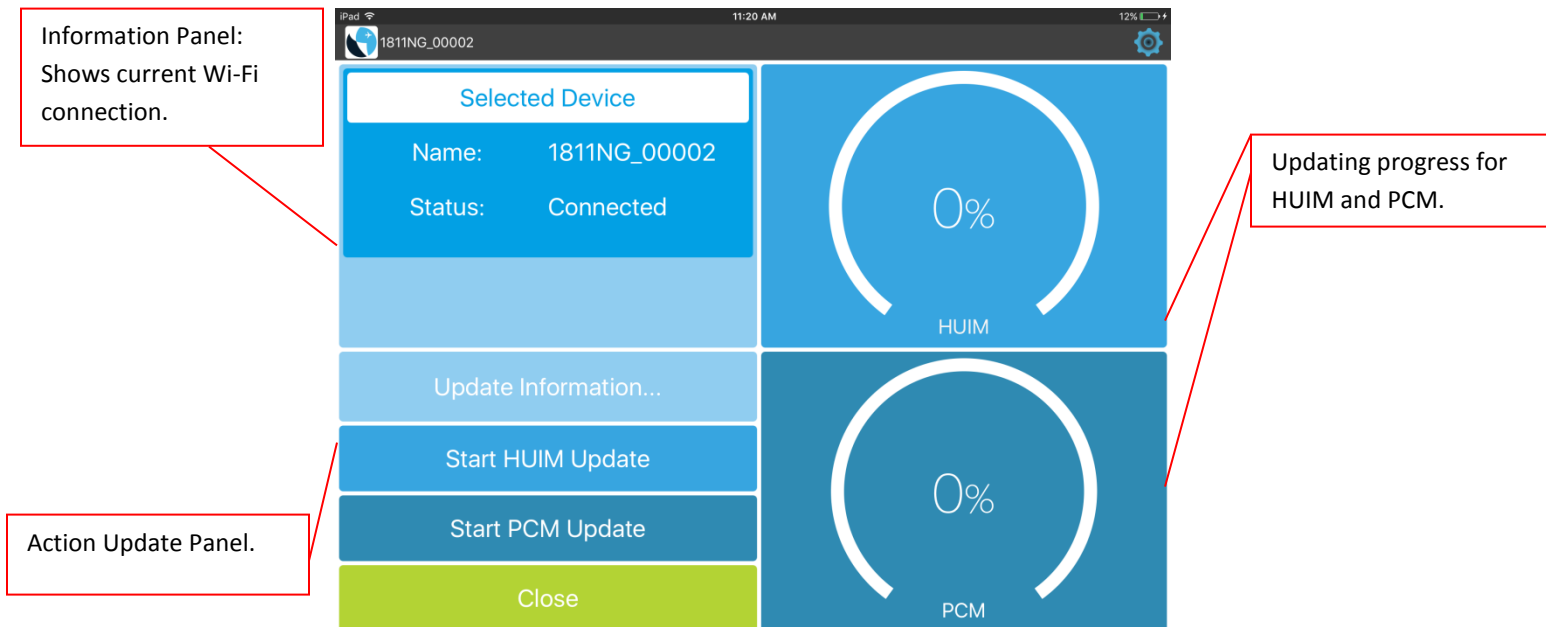

Figure E. 15 HUIM and PCM Update Process Screen
b) The new window shows the update process for the HUIM and the PCM (Fig. E. 15).